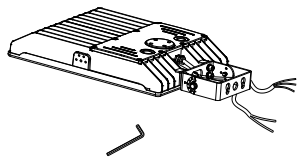

Figure 7
3. YOKE MOUNTING (YM)
Step 1: Put the input wire of the light across the bracket. (Figure 7)